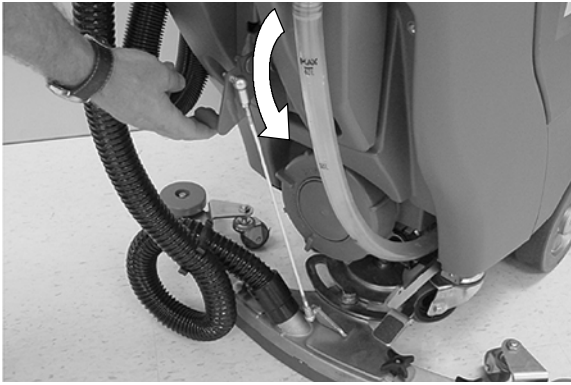

FIG. 15
- Lower the squeegee assembly to floor by lowering the squeegee lift lever (Figure 15). *The vacuum motor will automatically turn on.*